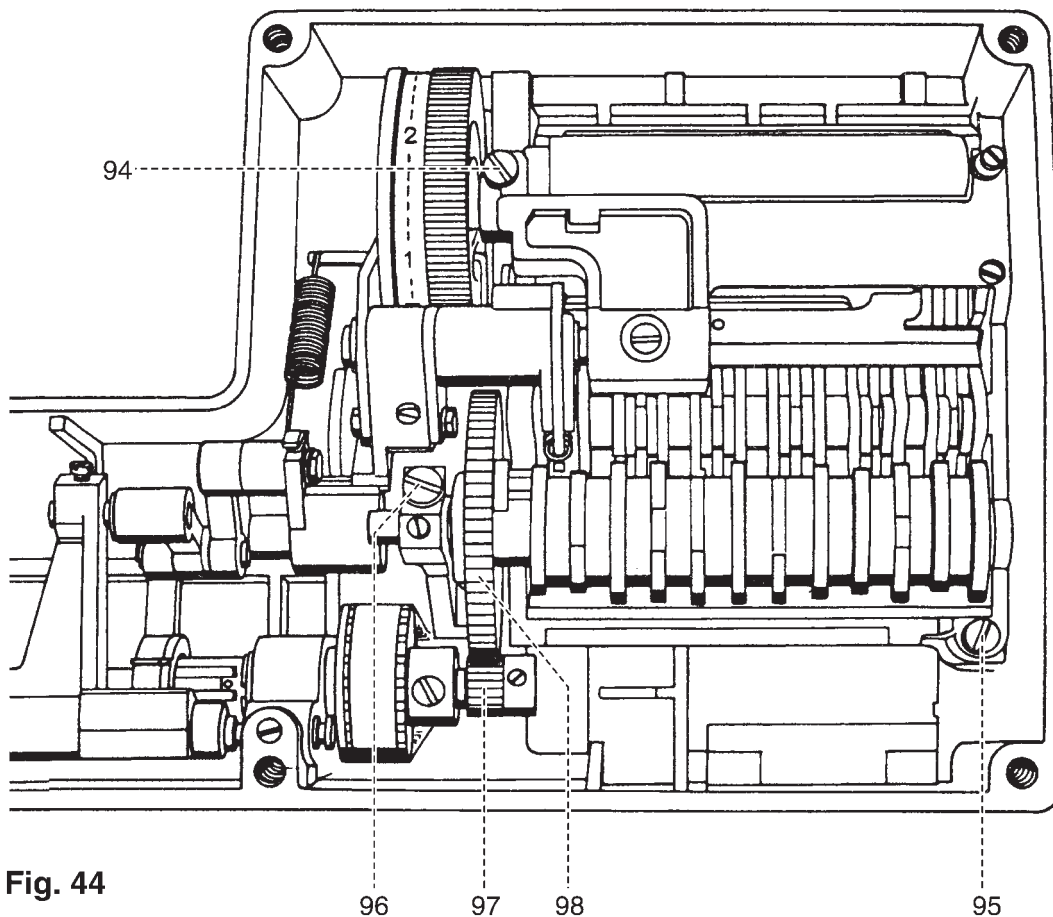

Fig. 44
- Set stitch width adjustment dial 70 to "0" (fig. 44).
- Insert bolt 76 of connecting rod 72 into joint piece 77 on the zigzag-stitch unit (fig. 44).